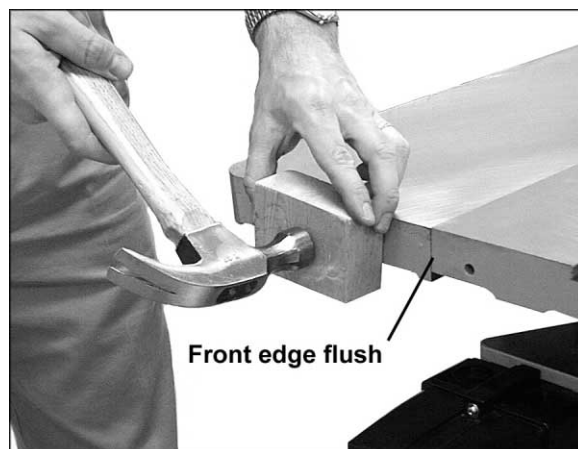

Figure 4
2. It is important that the front edge of the wing is flush with the front edge of saw table. See Figure 4.